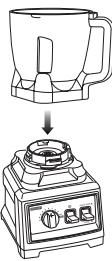

Fig. 15
- 3 Align and lower the Bowl onto the motor base. (Fig. 15) Handle should be aligned slightly to the right of the "LOCK" symbol on the motor base.